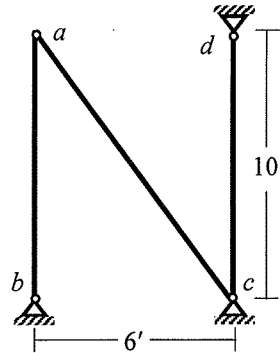

Fig.10
9. Calculate 1st natural frequency of the truss $abcd$ shown in **Fig.10** using consistent mass matrices.